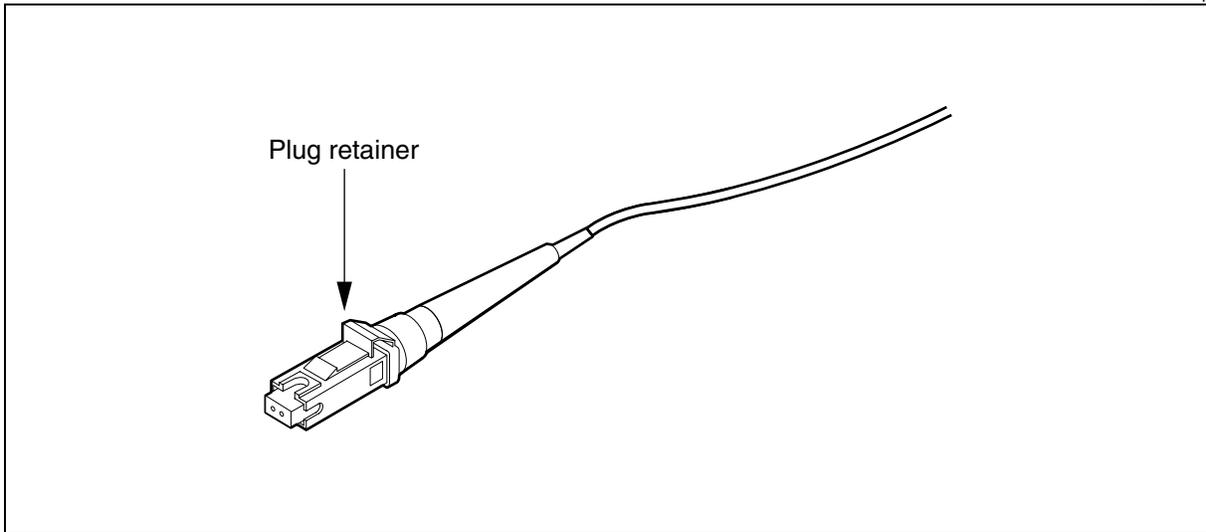
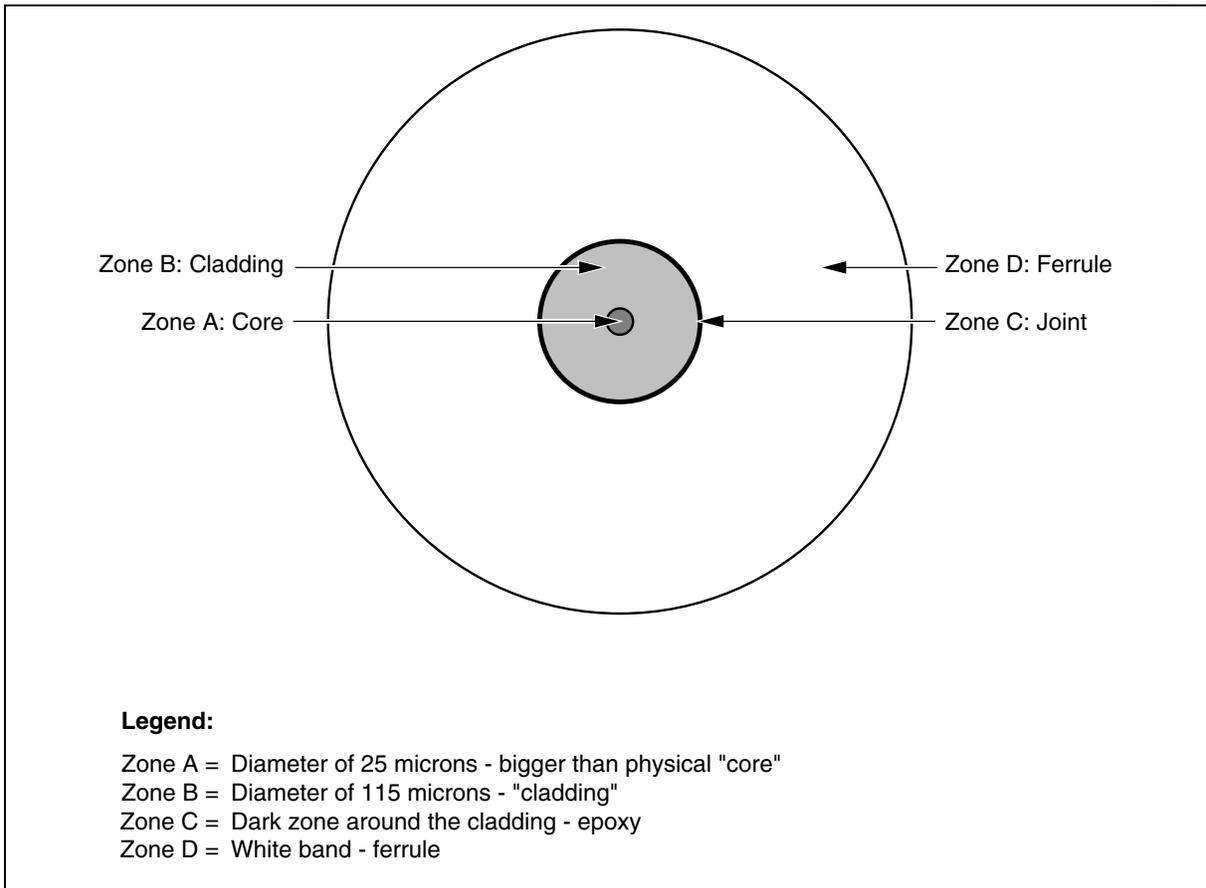

Figure 4-7
Figure 4-8
- 5 Adjust the focus so that you can identify four different zones. See Figure 4-7 on page 4-16 for the single-mode fiber zones. See Figure 4-8 on page 4-17 for an example of a dirty fiber-optic.
Insert the connector into a fiber microscope and examine the connector. See Figure 4-9 on page 4-17 and Figure 4-8 on page 4-17.